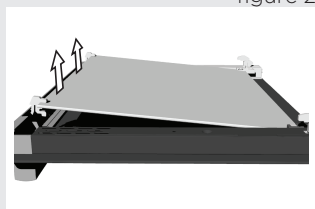

figure 3
- To remove the third inside glass (only with some models), lift and remove it. Also remove the rubbers on the glass (Figure 3).